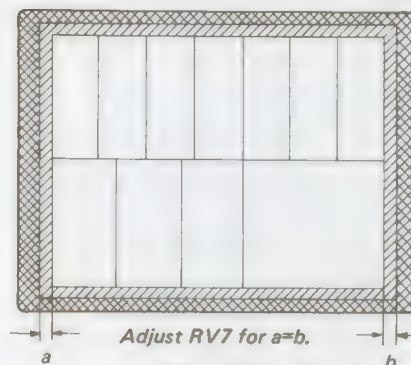

Fig. 5-128.
- (1) Make the BVM-1201 receive the color-bar signal (turn on the EIA on the signal generator) and set up the UNDER SCAN mode.
- (2) Set the BRIGHTNESS knob to MAX. Adjust RV7 on the E board so that the blanking width at the right and the left sides are equal to. (See Fig. 5-128.)